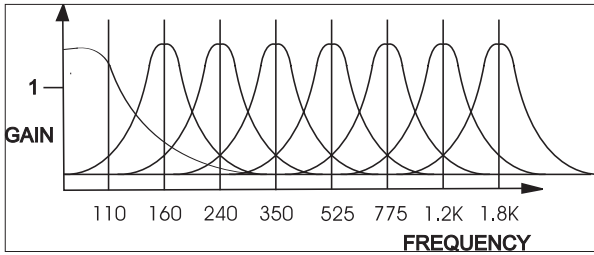

Figure 7 - BASS Frequency Response
6) Now turn all the sliders down except the lowest one. While playing your instrument, turn each slider up one at a time, while the rest of the sliders are all the way down. Pay careful attention to the sound of each filter. When you have learned the sound of each individual filter, try various combinations, such as the bottom two and top two. At this point you will want to repeat steps 5 and 6 with the **FREQ** slide switch moved to the **BASS** voicing position. Figure 7 shows the frequency response of the 8 filters in the **BASS** voicing setting. This will familiarize you with the sounds of the two voicings. Note that even without Animation, the MIDI MuRF is a **VERY POWERFUL** filter bank with many possibilities to sculpt your tone!